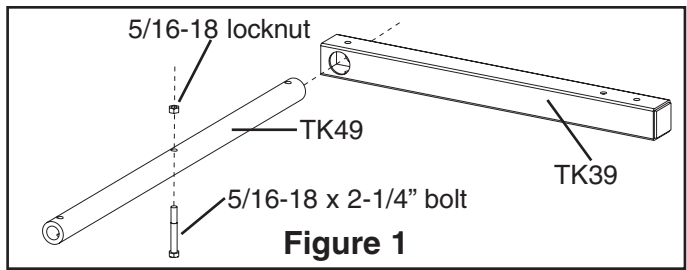

Figure 1
1. Insert the axle tube (TK49) into the rear tongue tube (TK19) until the center hole in the axle tube is in line with the center hole in the tongue tube. Fasten the two pieces together using (1) 5/16-18 x 2-1/4" bolt and (1) 5/16-18 biway locknut. The bolt can face up or down. Tighten the bolt when finished. See Figure 1.